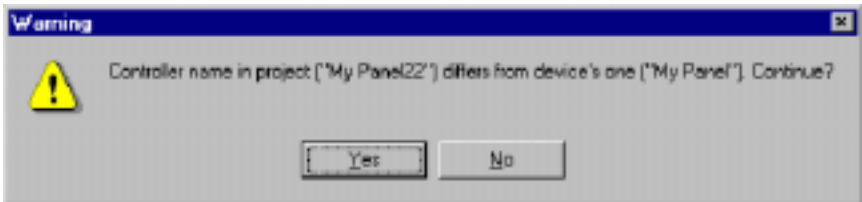

Figure 21 Warning about different names
If the panel is found its name will be compared to the name, specified in the project. If names differ you will be warned about it (see Figure 21):
The data stored in panel will be uploaded from the panel connected to the serial port and having the address (ID) specified in the "Panel" tab. If the panel with these parameters is not found, program will warn you about the mistake (see Figure 20). If the panel is found, its name will be compared to the name, specified in the project. If names are different, you will be warned about it (see Figure 21).